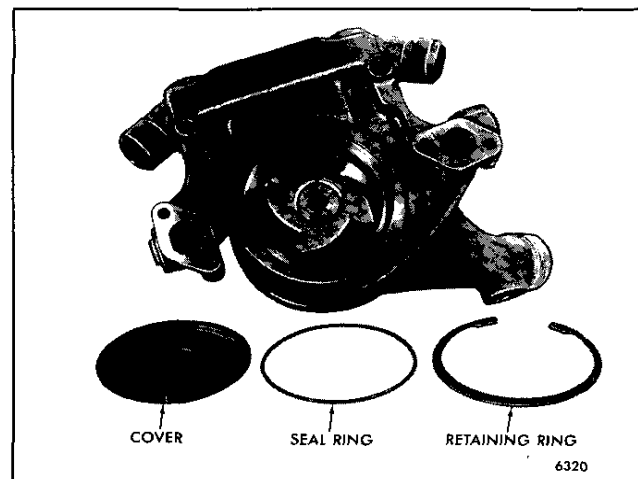

Fig. 11 - Standard Low Mount and Marine Low Mount Water Pump
9. Check the dimensions between the impeller blades and the body with a feeler gage. The impeller blade to body clearance is 0.02-0.91 mm (0.001-0.036") Using a straight edge, check to be sure that the impeller does not protrude beyond the pump body face (surface "B" in Fig. 1) more than  $0.39 \pm 0.08$  mm ( $0.15" \pm .003"$ ) maximum after assembly. The impeller may have to be repositioned inward or outward to meet specifications. The impeller can be repositioned using tool J 29190-A. The marine low mount pump requires no further measurements. It will be necessary to install a new O-ring, the original cover on marine low mount and standard low mount pumps. Then secure these parts in place with the original retainer snap ring (Fig.11).